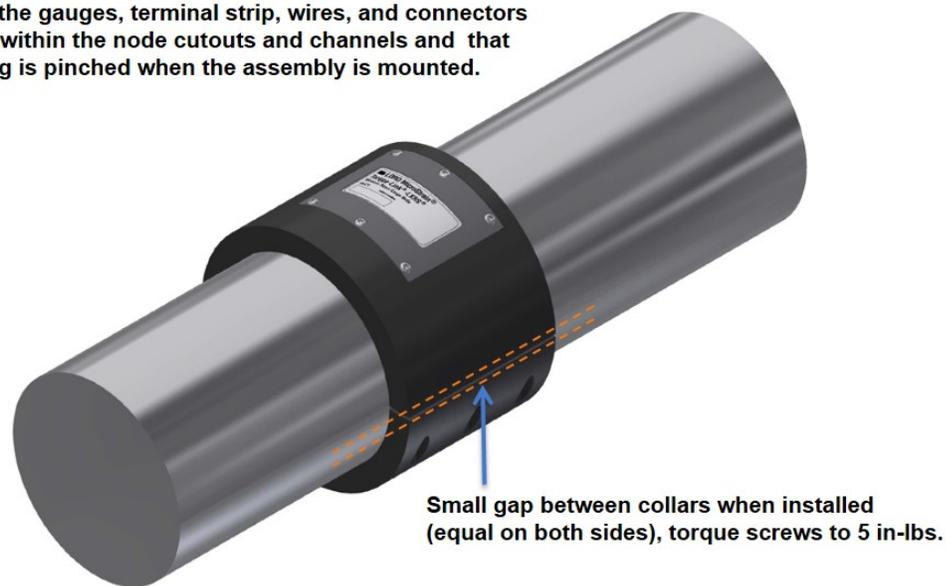

Figure 30 - Assembly Installation
7. Apply the thread locker on the collar screws, and fasten the two halves together, ensuring no wires are pinched. Fasten snugly with 5 inch-pounds of torque. Do not over-tighten. There should be a small gap (equal on both sides) between the collar halves (*Figure 30 - Assembly Installation*).